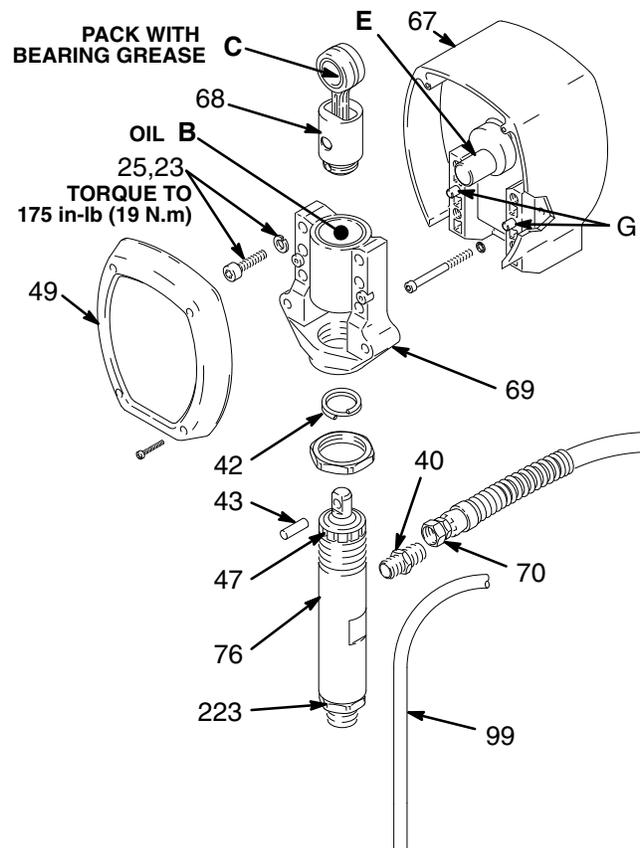

Fig. 20
Bearing Housing and Connecting Rod Replacement (Fig. 20)
13. Install the remaining parts. See Fig. 20.